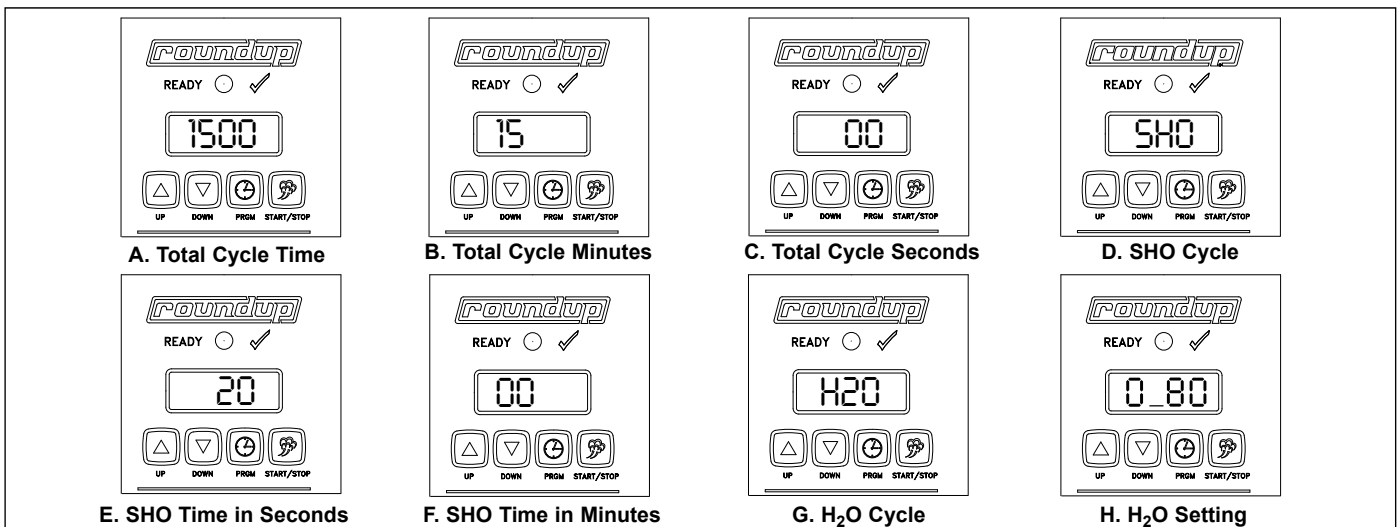

Figure 6. Control Programming Sequence
To program the control, refer to Figure 6 and follow the procedure below:
1. Turn the unit on. The unit displays the factory programmed Total Cycle Time in minutes and seconds (Item A, Figure 6).
3. To change the Total Cycle Time in minutes, press  or  to change the time (Item B, Figure 6).
4. Press and release  again, and press  or  to change the Total Cycle Time in seconds (Item C, Figure 6).
5. To change the SHO factory settings, make sure the control is in PROGRAM mode, then press and hold both  and  simultaneously for 1-2 seconds and then release. SHO will be displayed (Item D, Figure 6).
6. Press and release  and then press  or  to change the SHO in seconds (Item E, Figure 6).
7. Press and release  again and press  or  to change the SHO in minutes (Item F, Figure 6).
8. Press and release the Program button again and H₂O will be displayed (Item G, Figure 6).
9. To change the H₂O (Steam Shot time), press and release the Program button again to display the setting (Item H, Figure 6). Use  or  to increase or decrease the time.